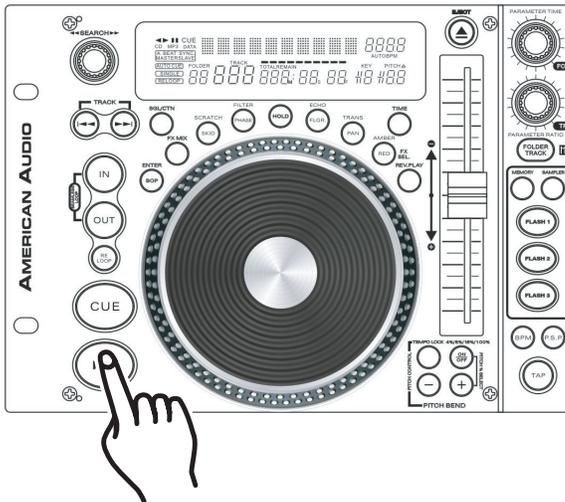

Figure 30
- 1) Press the *PLAY/PAUSE BUTTON (23)* so music is playing (Figure 30).